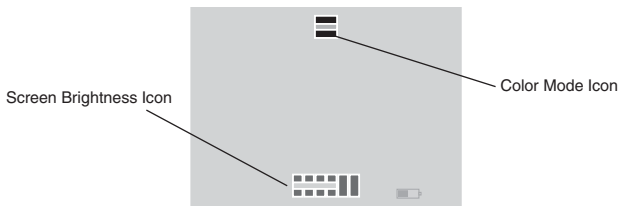

FIGURE 3.4. SCREEN OF SECOND MENU SET
- (3) Align the headmount/helmet mount adapter's latch to the headmount socket (Figure 3.4.). Press and hold down the latch lever while installing the monocular into the headmount socket. Release the latch when the monocular fully engages the socket.
- (4) Set your eye relief by depressing the eye relief adjustment
(Figure 3.4.) and move the monocular back toward your non-dominant eye until the eyecup comfortably seals around the eye.
Set your eye relief by depressing the side buttons (or press down on side lever on metal mount) (see Figure 3.4.) and carefully move the monocular fore or aft until the eyecup comfortably seals around the eye. Readjust the helmet straps as required for vertical adjustment.
- (4) Turn power switch to ON. Adjust the tilt by using the tilt adjustment lock knob (or tilt adjustment lever on metal mount) (Figure 3.4.) until you obtain a comfortable viewing angle.